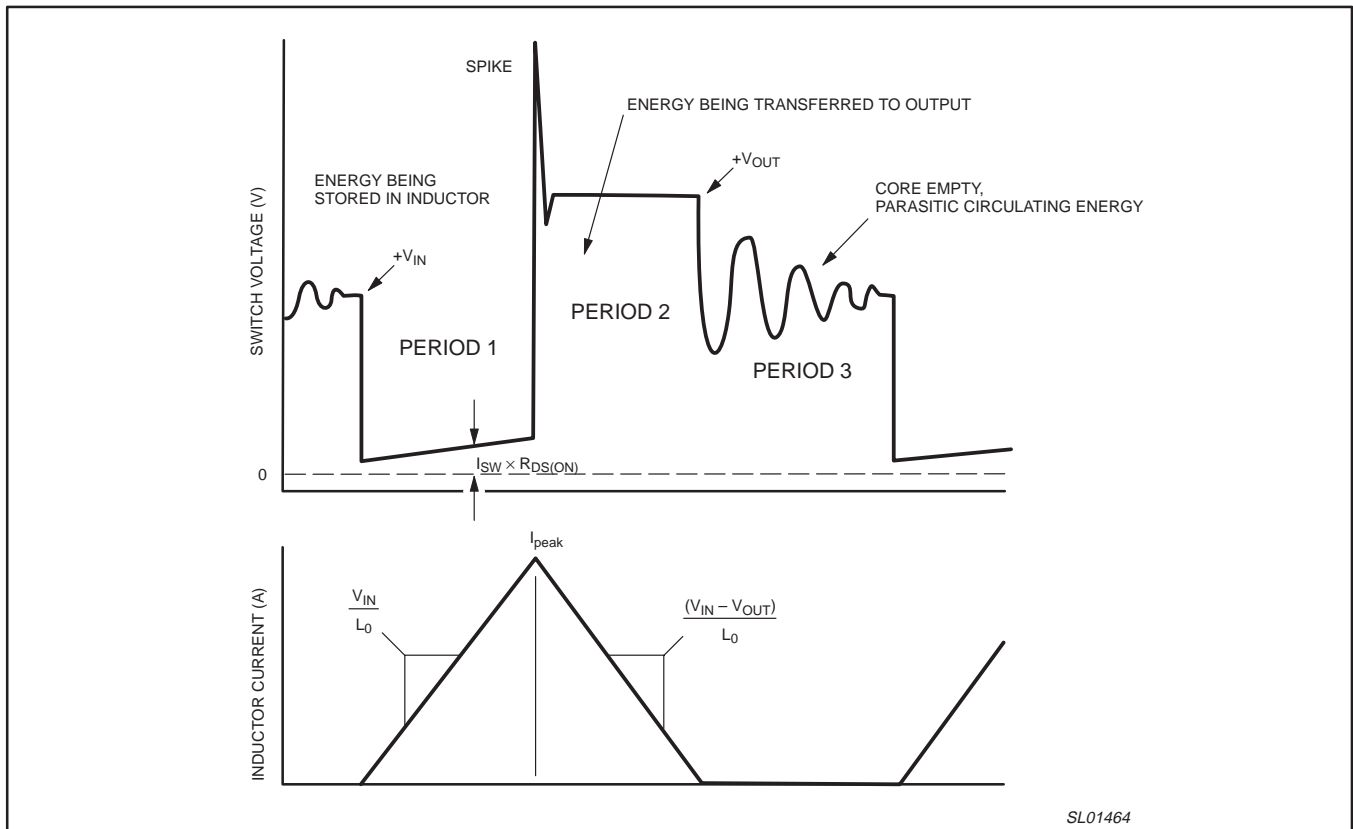

Figure 25. Boost converter waveforms (discontinuous mode).
To understand the boost converter's operation, examine its three periods of operation. These periods are: the power switch on-time (period 1); the inductor discharge period (period 2); and the inductor empty state (period 3). These periods and their associated currents can be seen in Figure 25.
**DISCONTINUOUS MODE**—This period as displayed in Figure 25 occurs in the discontinuous-mode of operation of a boost converter. It is identified by a period of "ringing" following the output period (period 2). The inductor has been completely emptied of its stored energy and the switched node returns to the level of the input voltage. Ringing is seen at this node because a resonant circuit is formed by the inductance of  $L_0$  and any parasitic inductances and capacitances connected to that node. This ringing has very little energy and can easily be eliminated by a small passive snubber.
The input and output capacitors experience the current waveforms seen in Figures 25 and 26. The peak currents can be typically between 3 to 6 times the average currents flowing into the input and from the output. This makes the choice of capacitor an issue of how much ripple voltage can be tolerated on the capacitor's terminals and how much heating the capacitor can tolerate. At the power levels produced by the SA57254-XX heating is not a major issue.